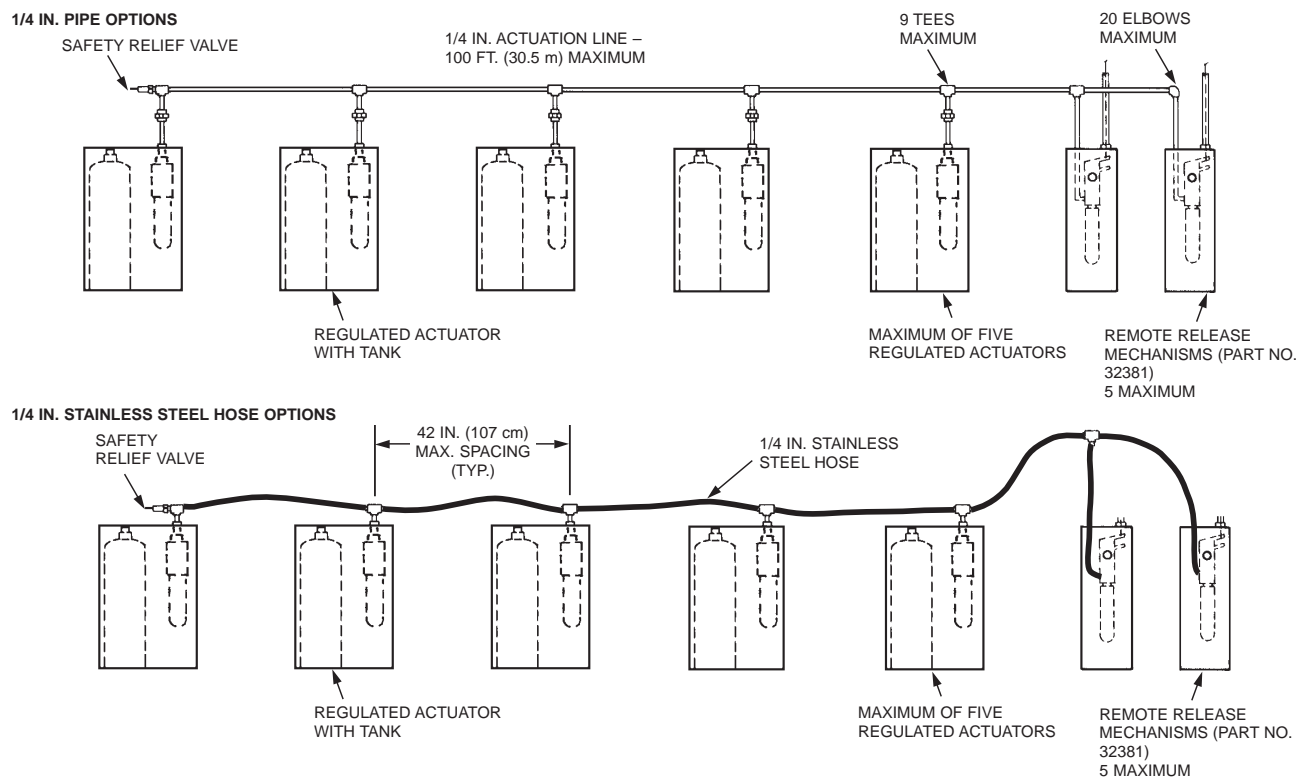

FIGURE 17
3. When pipe is used, a combined total of 20 elbows and 9 tees may be used in these lines. Two 45° elbows equal one 90° elbow. See Figure 17.